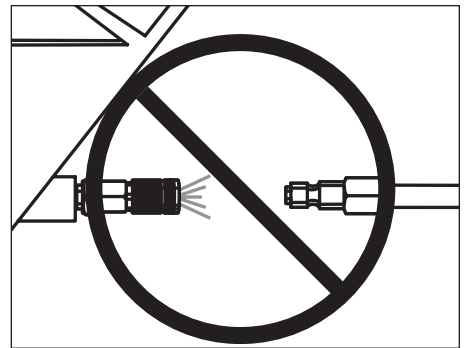

Figure 2
**▲ WARNING** Always fit tool with a fitting or hose coupling on or near the tool in such a manner that all compressed air in the tool is discharged at the time the fitting or hose coupling is disconnected. Do not use a check valve or any other fitting which allows air to remain in the nailer. Death or serious personal injury could occur. See Figure 2 on page 6.